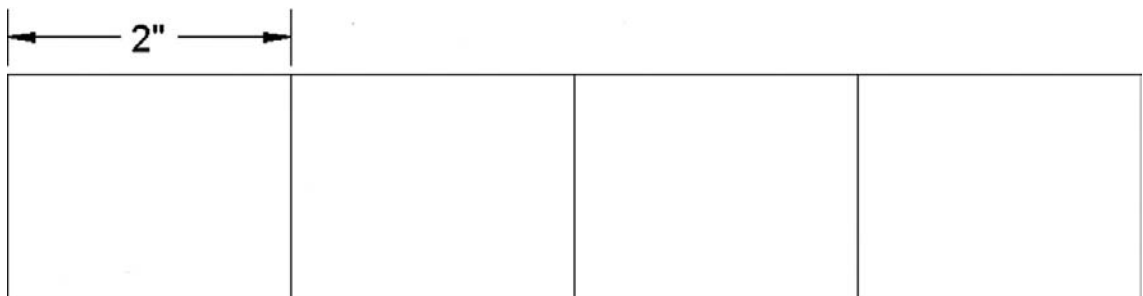

FIGURE 6.9
The next step is to draw one horizontal linear dimension as you already have done (it could have easily been a vertical line, too, if the rectangles were stacked vertically). Locate it about where you would like the entire string to go, as seen in Figure 6.9.
- Step 1.** Once you have the squares and one linear dimension as seen in Figure 6.9, start up the continuous command via any of the preceding methods.
The baseline dimension, as mentioned before, is very similar in principle to the continuous dimension. The goal is to make a neat stack of evenly spaced dimensions that all start at one point (the *base* in *baseline*). To begin, erase the previous continuous dimensions (leaving the squares) and once again draw one linear (horizontal) dimension, as seen before in Figure 6.9.